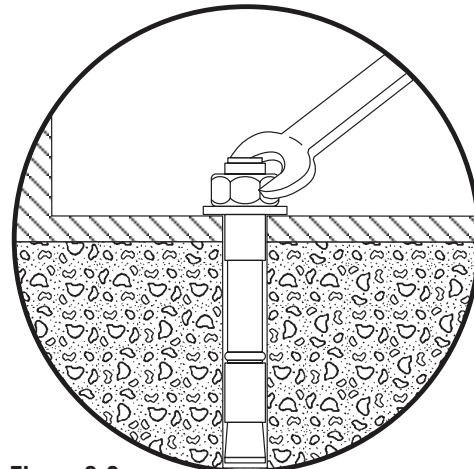

Figure 3-9
6. Tighten floor anchors "Hilti Bolts" with wrench to 65 Ft. Lbs. Torque. (Part No. 12100, "Hilti" No. 45367). See Figure 3-9.